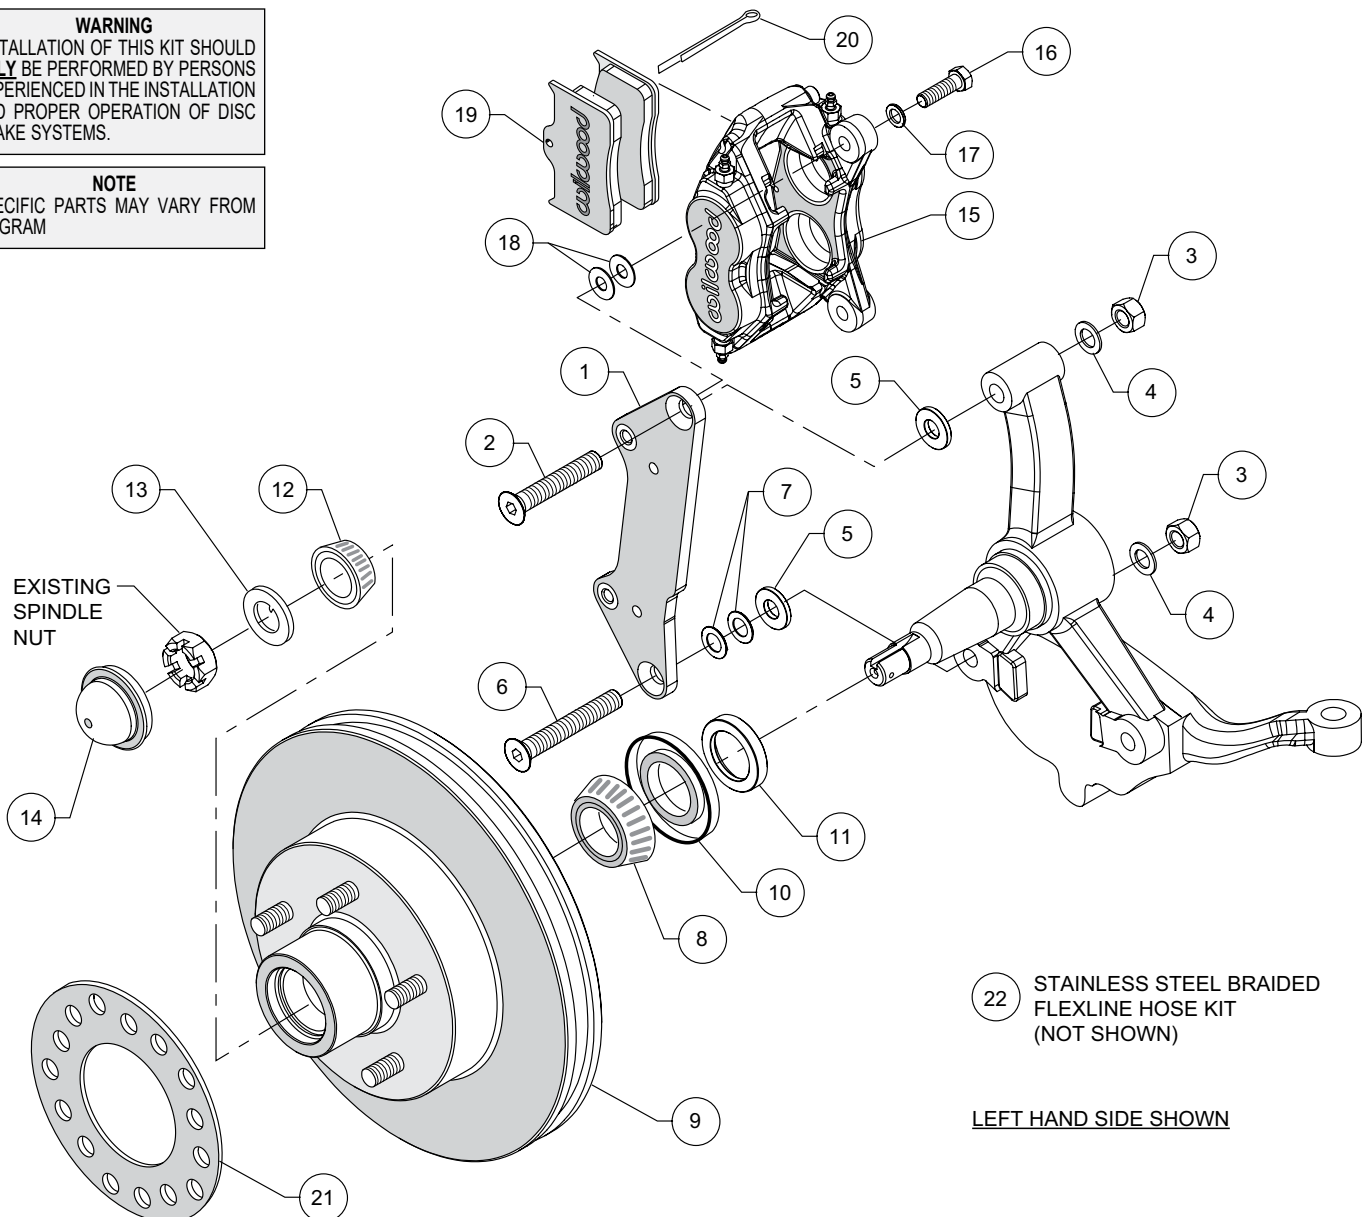
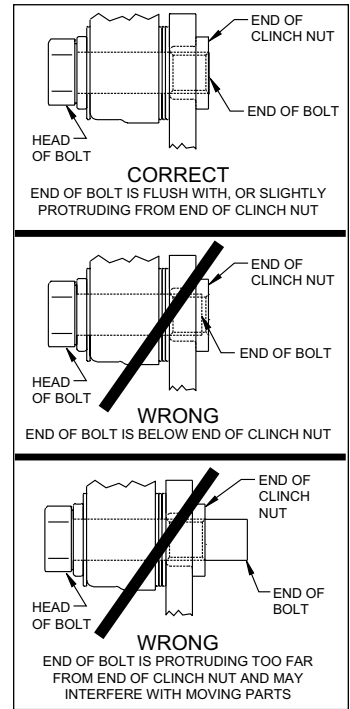

Figure 1. Typical Installation Configuration
Figure 3. Clinch Nut Engagement Diagram
**NOTE:** Numbers in parenthesis refer to the parts list and Figure 1 on the preceding pages.
**CAUTION:** All mounting bolts must fully engage clinch nuts. Be sure to check that all bolts are either flush or protruding through flanged side of clinch nut after shimming, Figure 3.
•The caliper bracket (1) should initially be installed with clean, dry threads on the mounting bolts. Orient the bracket as shown in Figure 1 and Photo 1, and install using bolts (2/6), nuts (3) and washers (4). Place a .147" thick spacer (5) positioned between the bracket and spindle on both the upper and lower bolts, as shown in Figure 1. Initially place two .032" thick shims (7) on the lower bolt between the bracket and spacer, Figure 1. Ensure that the flanged heads of the clinch nuts in the bracket are facing outboard, Photo 1. Temporarily tighten the mounting bolts. **NOTE:** The bracket must fit squarely against the mounting points on the spindle. Inspect for interference from casting irregularities, machining ridges, burrs, etc. Later, after the bracket alignment has been checked, the bolts will be secured using red *Loctite*® 271.
•Pack the large inner bearing cone (8) with high temperature disc brake bearing grease (available from your local auto parts store) and install into the backside of the hub (9), Photo 2.
•Install the grease seal (10) by pressing into the backside of the hub (9), flush with the end of the hub.
•Slide the bearing spacer (11) onto the spindle. Ensure the chamfered I.D. faces inward, Photo 3.
•Temporarily install the hub/rotor (9) onto the spindle using outer bearing (12), spindle washer (13), and spindle nut. Check that the caliper mounting bracket (1) is aligned parallel to the rotor, Photo 4. If not, adjust by adding or subtracting shims (7) on the lower bolt between spacer and bracket, Figure 1. Once the bracket alignment is correct, remove bolts one at a time, apply red *Loctite*® 271 to the threads and torque nuts to 77 ft-lb.
•Remove hub/rotor and pack the small outer bearing cone (12) with high temperature disc brake bearing grease and final install into the front side of the hub (9). Slide the hub/rotor onto the spindle. Secure using spindle washer (13), and original spindle nut. Bearing adjustment: Tighten the nut while turning the hub. When there is a slight bind on the bearings, they are seated correctly. Back the nut off about 1/6 to 1/4 of a turn, or sufficiently to allow .001" to .007" end play. **WARNING:** Failure to back off adjusting nut could cause bearing to run hot and be damaged, which could cause the wheel to lock or come off. Install a new cotter pin (not supplied), Photo 5.
•Press the dust cap (14) into the hub (9), Photo 6.
•**NOTE:** Please reference the caution statement at the beginning of the assembly instructions. Mount the caliper (15) onto the caliper mounting bracket (1) using bolts (16) and washers (17), as shown in Figure 1. Initially place two .035" thick shims (18) on each bolt between the caliper and the bracket, Photo 7. Temporarily tighten the mounting bolts and view the rotor (9) through the top opening of the caliper. The rotor should be centered in the caliper, Photo 8. If not, adjust by adding or subtracting shims between the bracket and the caliper. Always use the same amount of shims on each of the two mounting bolts. **NOTE:** The end of each bolt must be flush with or slightly protruding from the head of the clinch nut, as shown in Figure 3. If necessary place spare shims between washer (17) and caliper mounting ear to achieve the proper clinch nut engagement. Once the caliper alignment and clinch nut engagement are correct, remove the bolts one at a time, apply red *Loctite*® 271 to the threads, and torque to 40 ft-lb.
•Install the disc brake pads (19) into the caliper, with the friction material facing the rotor (9), Photo 9. Secure in place using cotter pin (20), Photo 10.
•Install wheel spacer (21), if necessary for wheel clearance, Figure 1 and Photo 11. Temporarily install wheel and torque lug nuts to manufacturer's specification. Ensure that the wheel rotates freely without any interference. Remove wheel for next step.
•**NOTE:** OEM rubber brake hoses generally cannot be adapted to Wilwood calipers. The caliper inlet fitting is a 1/8-27 NPT (use PTFE tape on pipe threads of adapter fitting for proper sealing to caliper). Install Wilwood's stainless steel braided flexline hose kit (22), P/N 220-6471 included with this kit, Photo 12. **Carefully route hoses to prevent contact with moving suspension, brake or wheel components.** **NOTE:** Wilwood hose kits are designed for use in many different vehicle applications and it is the installer's responsibility to properly route and ensure adequate clearance and retention for brake hose components.